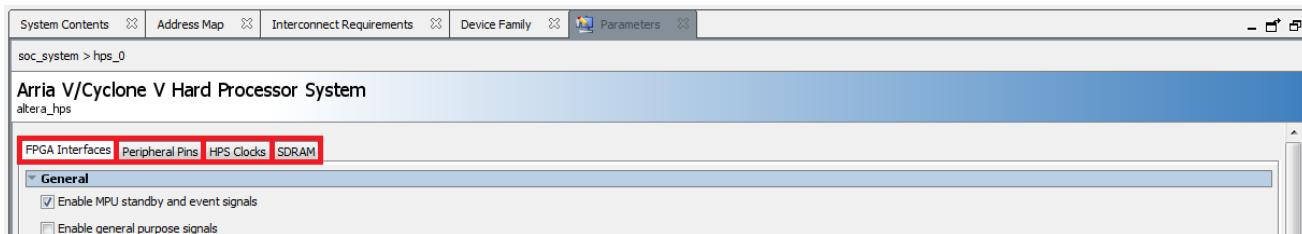

Figure 8-5. HPS Component Parameters
15. Open the HPS' parameters and have a look around. There are 4 tabs that control various aspects of the HPS' behaviour, as shown on Figure 8-5.